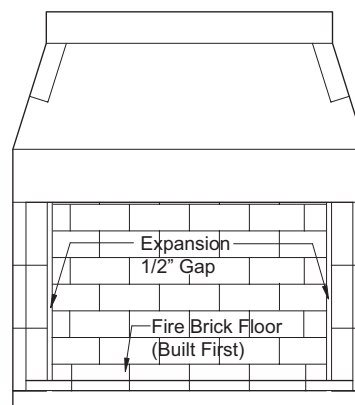

FIGURE 63
4. Next, apply firebrick to the back wall of the unit. The back wall firebrick covers the 1/2" expansion gap left at the brick floor along the back wall of the firebox. **(Figure 63)**